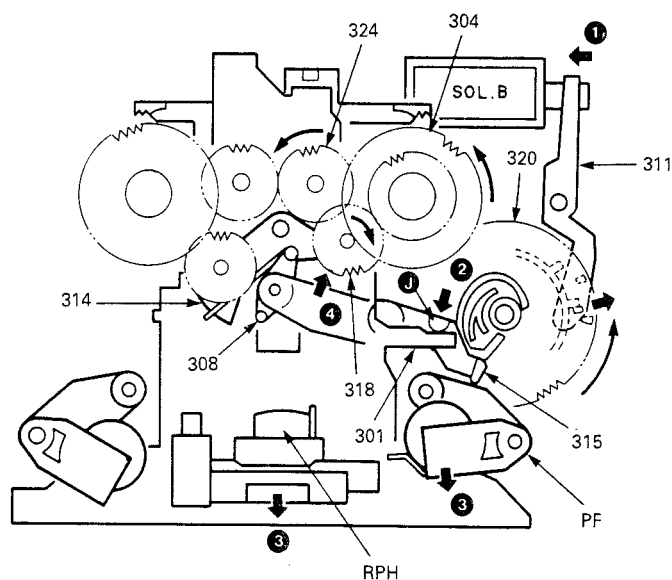
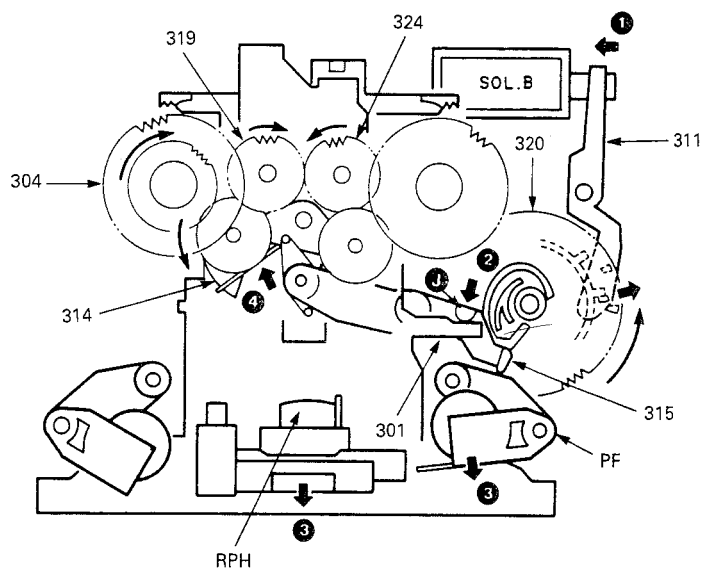

Fig. 10
Fig. 11
8-1 When the SOL. B is turned ON during play, the FR cam gear (320) is meshed with the flywheel gear, and the FR shift arm (315) is pushed down in the direction of the arrow ② by the cam on the FR cam gear (320). At this time, the select arm (308) on the other end of the FR shift arm (315) is pushed up in the direction of the arrow ④, so that the cue operation takes place in the condition of Fig. 10 and the review operation takes place in the condition of Fig. 11.